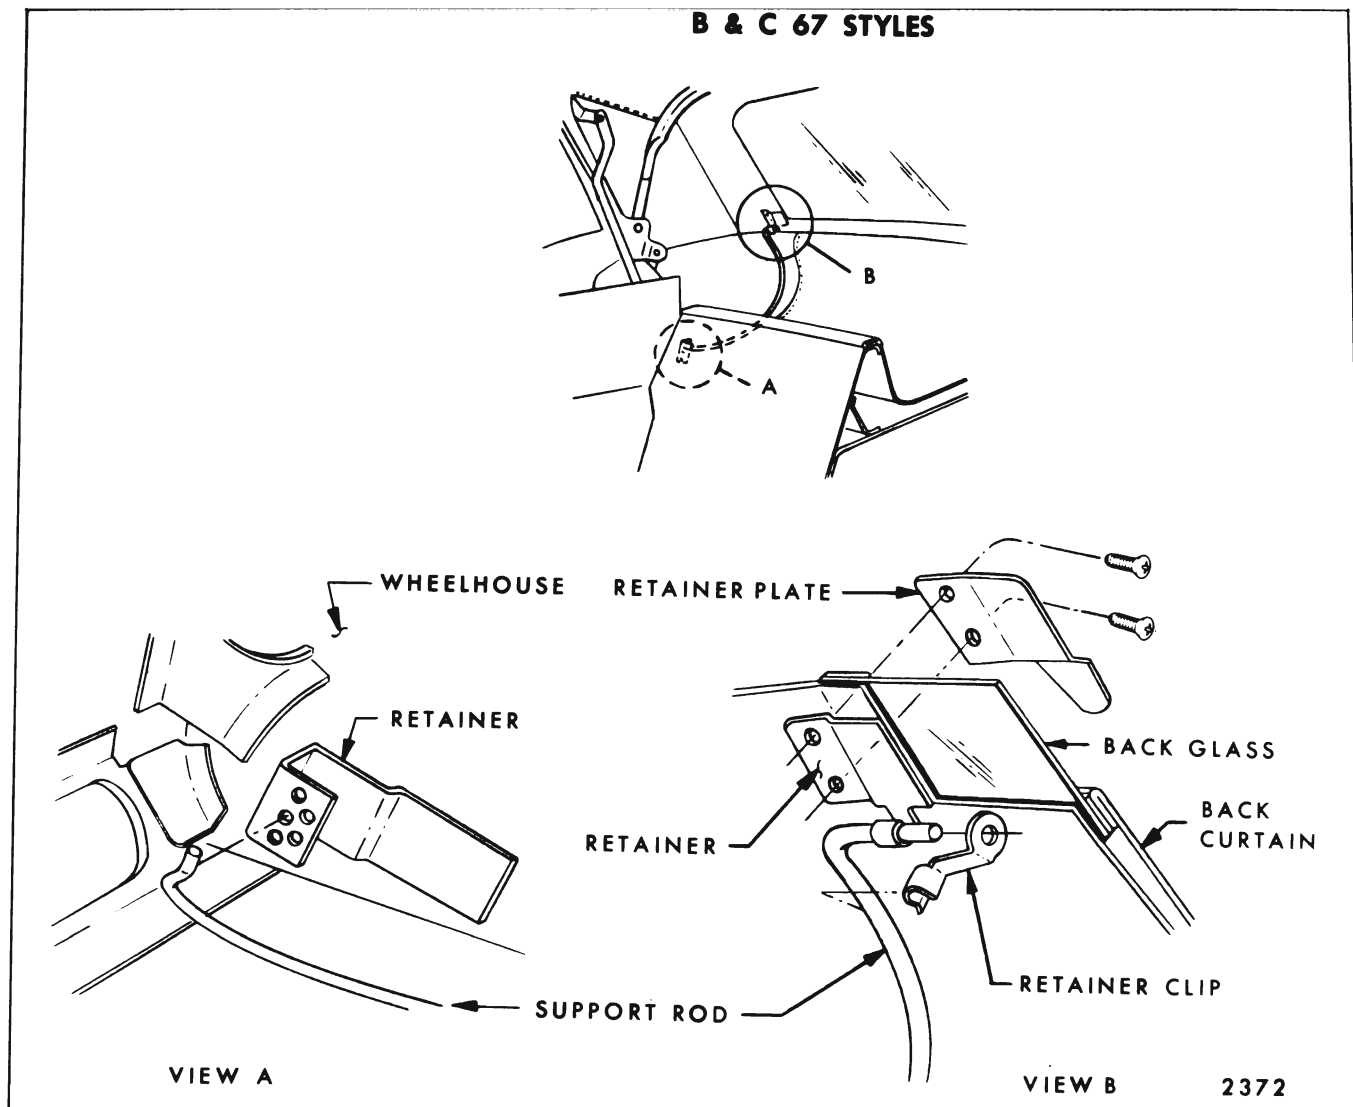

Fig. 13-46—"B & C" Body Back Glass Support Rod Attachments
4. On styles equipped with back curtain support rods disengage rods from back curtain (Fig. 13-46).